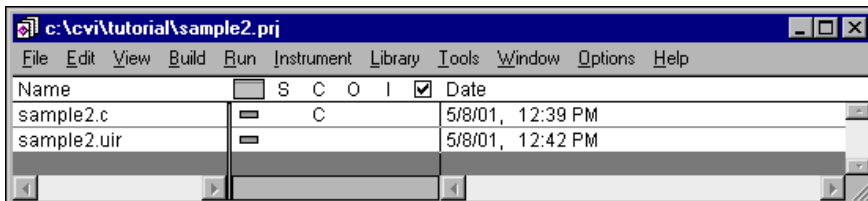

Figure 2-1. sample1.prj in the Project Window
*.prj	Project window. Refer to Figure 2-1.
After you load `sample1.prj`, the Project window appears as shown in Figure 2-1.